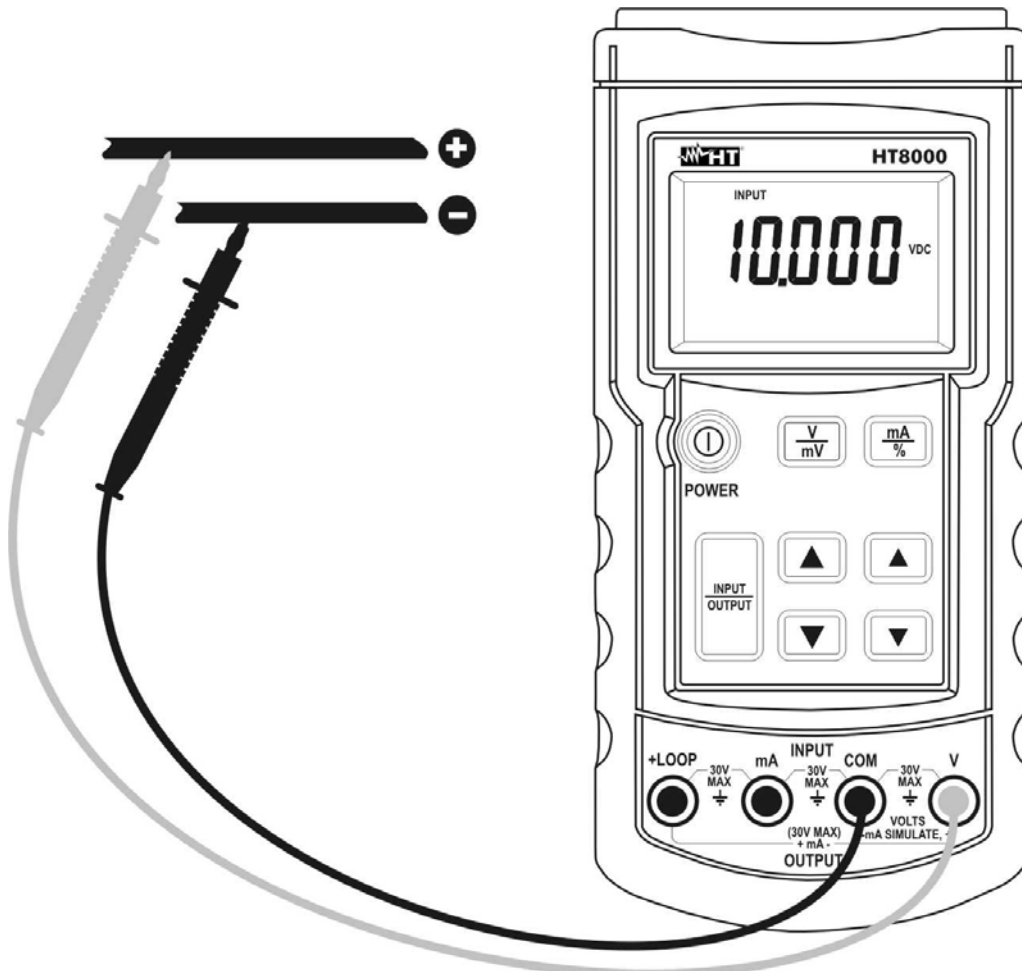

Fig. 2: DC Voltage measurement
4. Connect the red and black test leads to the positive and negative poles of the circuit under test respectively (see Fig. 2). The voltage value will be displayed
5. The message "**O.L**" means that the voltage exceeds the measuring limits. The symbol "**-O.L**" on the display means that voltage has opposite polarity respect the connection shown in Fig. 2